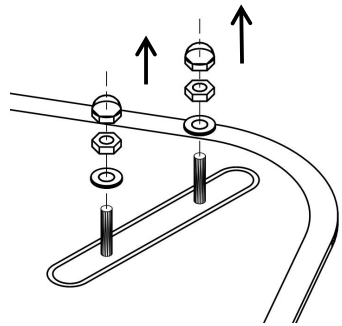

Figure1
- ① Ensure the bath is on a soft surface to protect against scratches.
- ② Take off the plastic covers of screws and unscrew nuts and washers from the bath (these are pre-assembled on bath). See Figure 1